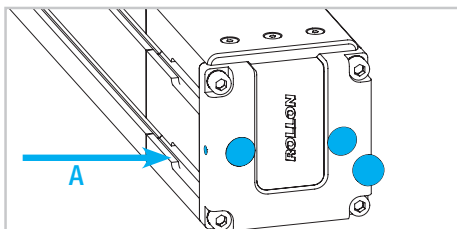

Fig. 8
- 8) Remove the protection caps on the fixing screws and loosen the A set screws (Fig.8).